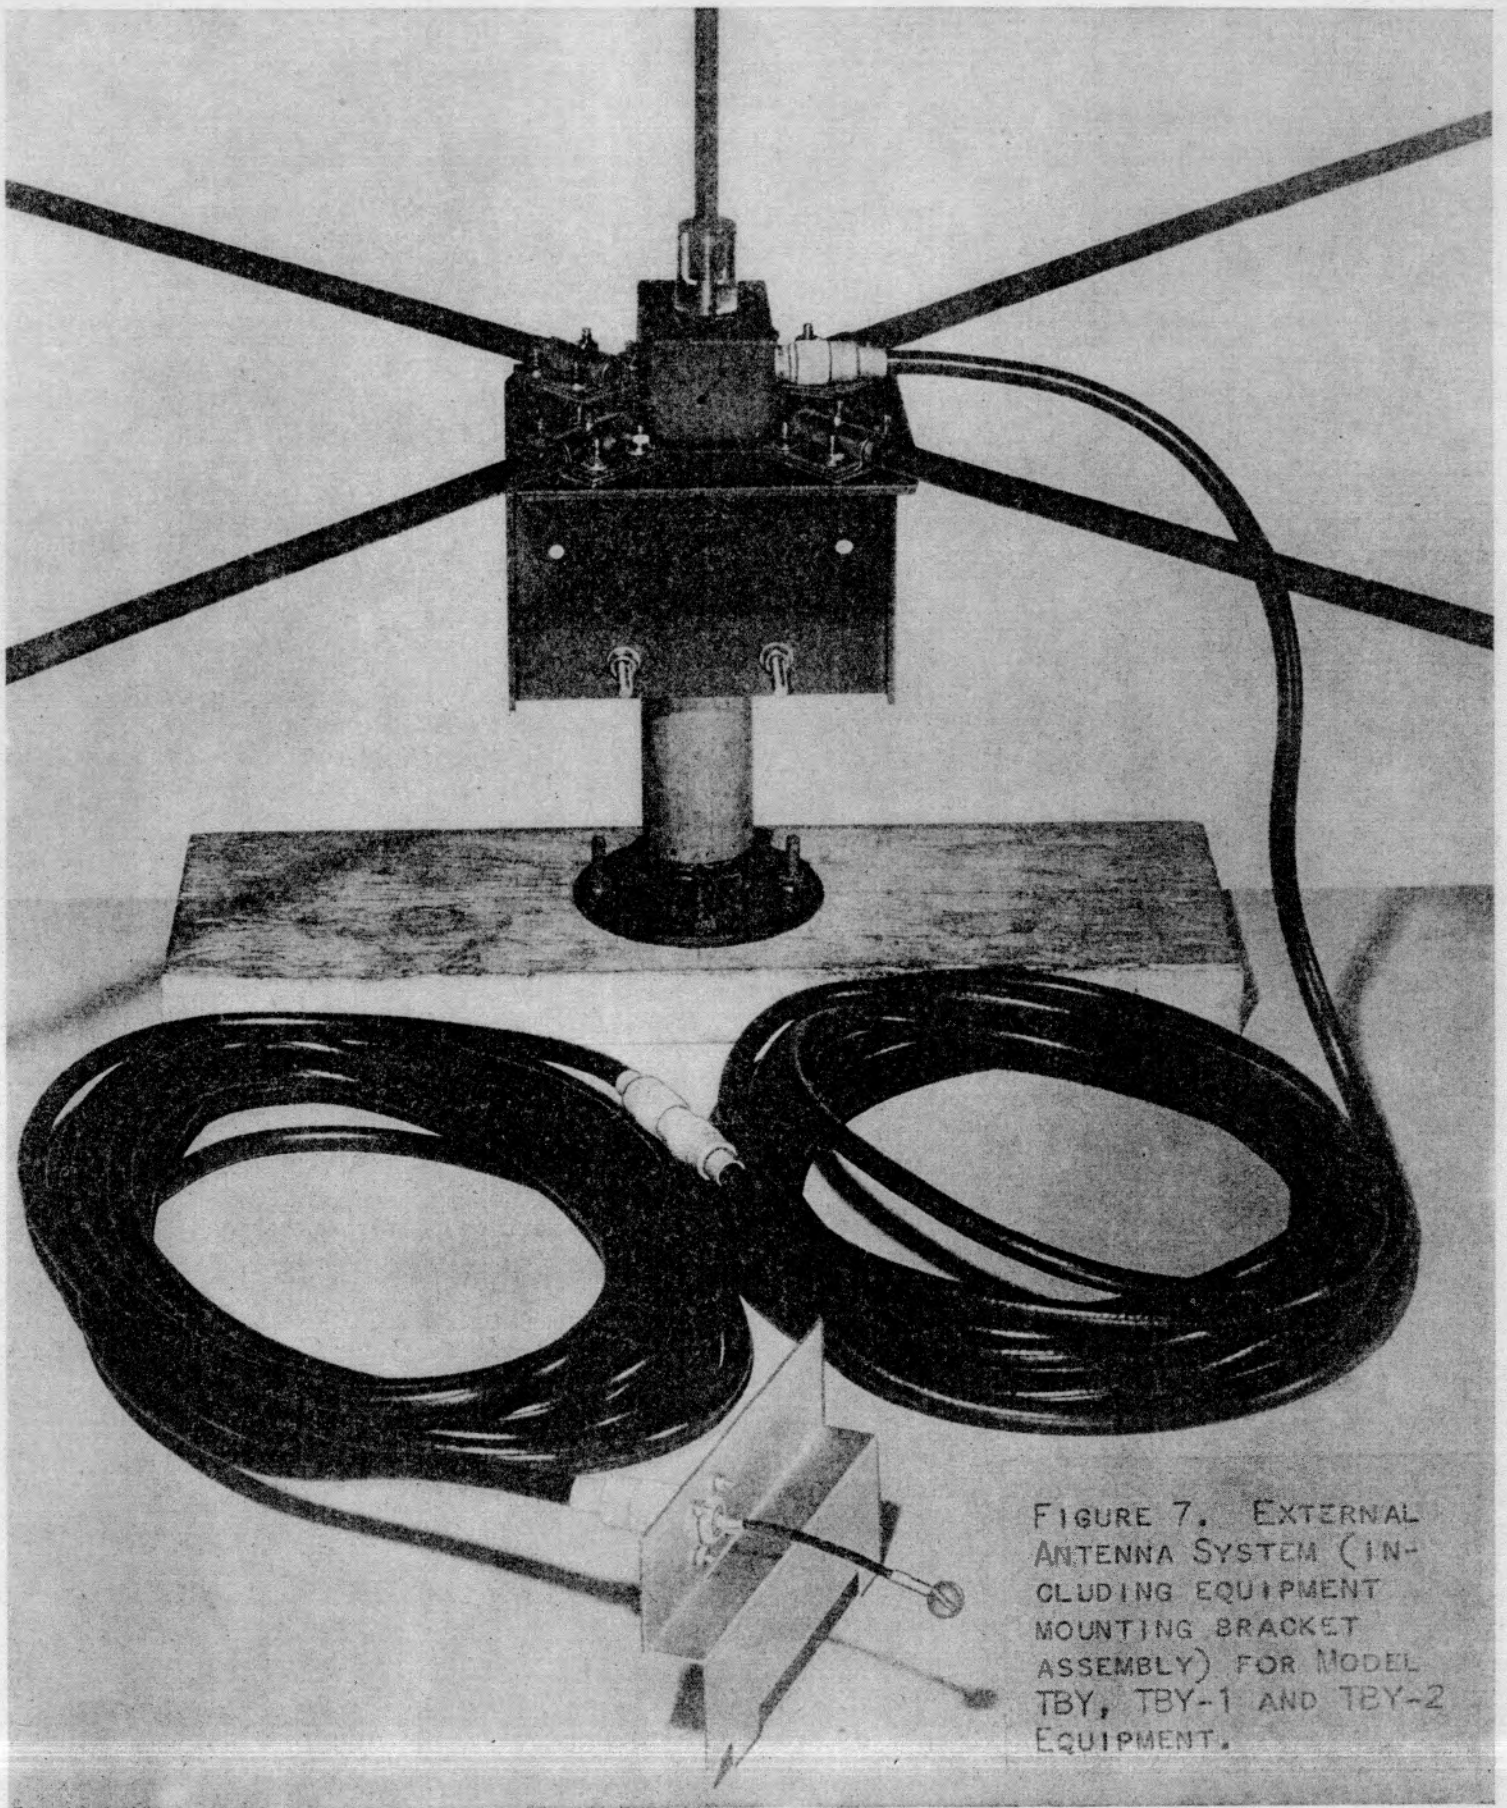

FIGURE 7. EXTERNAL ANTENNA SYSTEM (INCLUDING EQUIPMENT MOUNTING BRACKET ASSEMBLY) FOR MODEL TBY, TBY-1 AND TBY-2 EQUIPMENT.
- Figure 7. External Antenna System (*including equipment mounting bracket assembly*) for Model TBY, TBY-1 and TBY-2 Equipment.